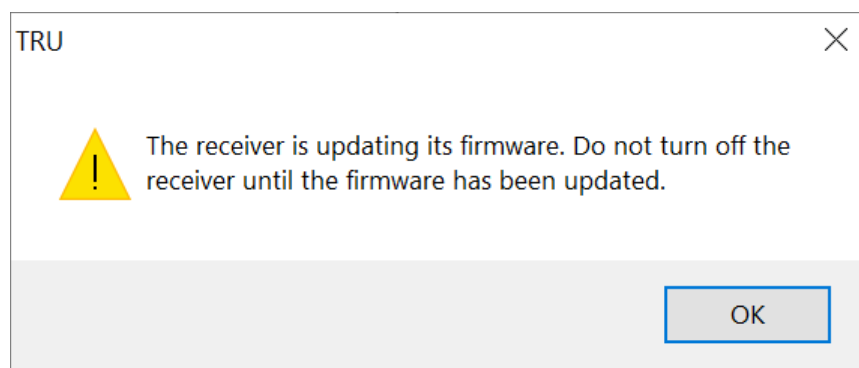

Figure 5-8: Firmware Updating Window
16. Select **Next**. The **Installation** screen opens and the firmware begins uploading. When the firmware completes uploading, a dialog window opens (Figure 5-8). It warns not to turn off the receiver while the firmware is updating.